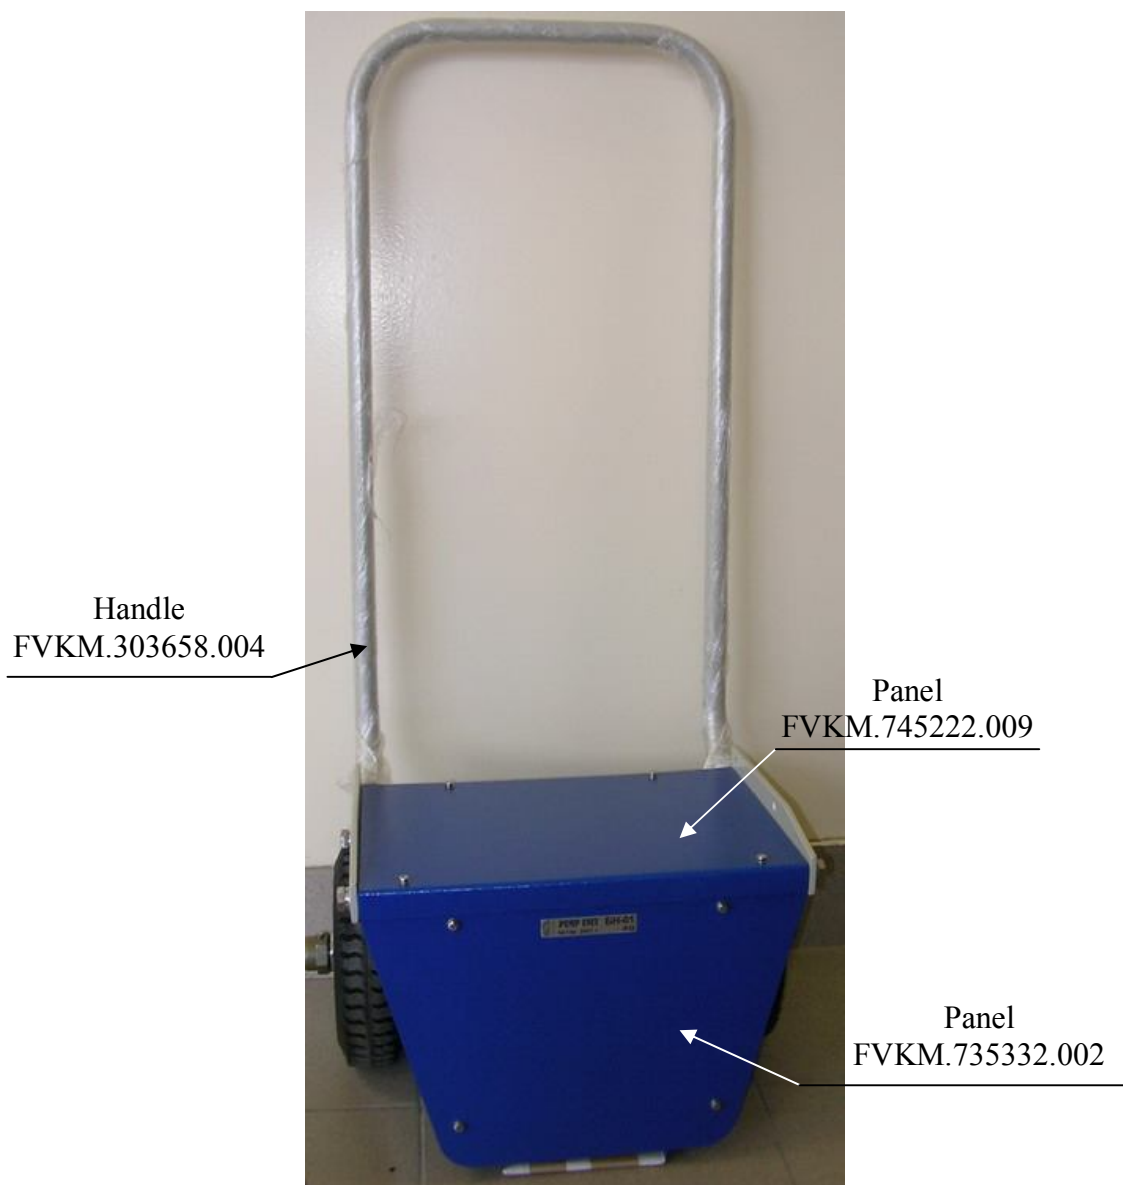

Figure 3.1 – Removing the handle
3.4.1 Unscrew four bolts and remove the handle (see Figure 3.1).